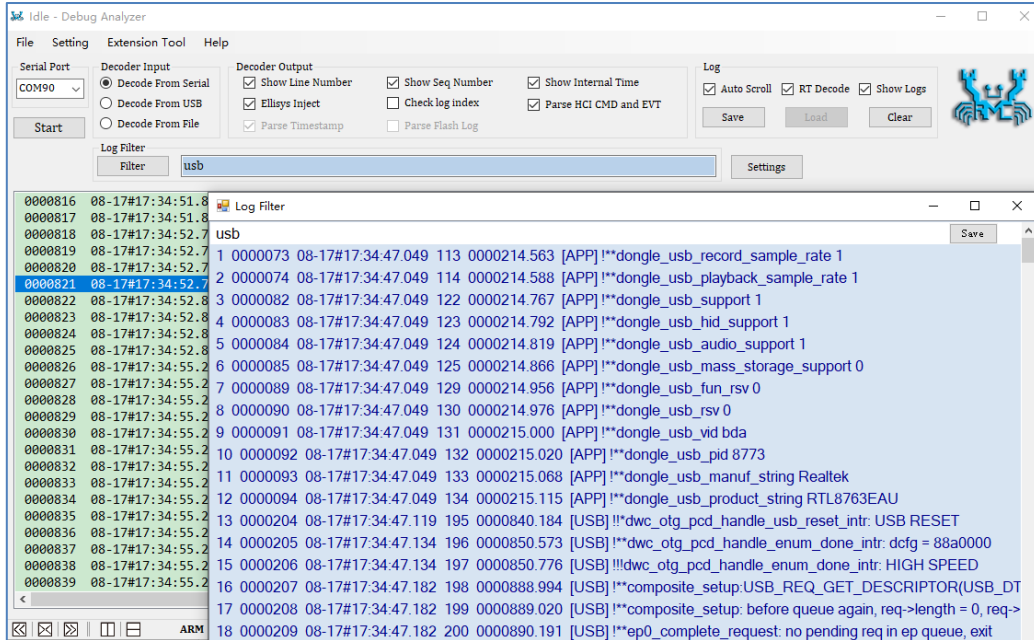

Figure 6-3 Search and Filter Logs
- 2) Click the “Filter” button or press “Enter” key on the keyboard, the filter result will be shown as in Figure 6-3.